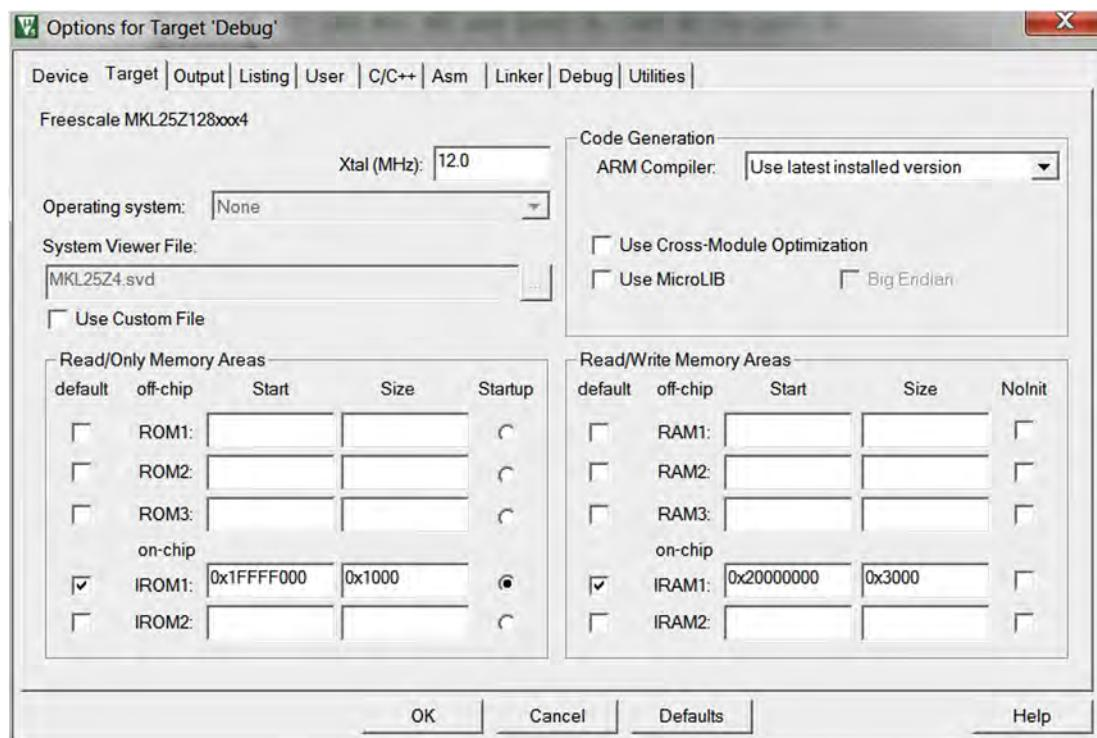

Figure 14.86
- Memory layout of the image (Target options, Figure 14.86)
First, we need to specify the new memory map for the compiled image (Figure 14.86). The memory layout depends on the microcontroller used for the project.